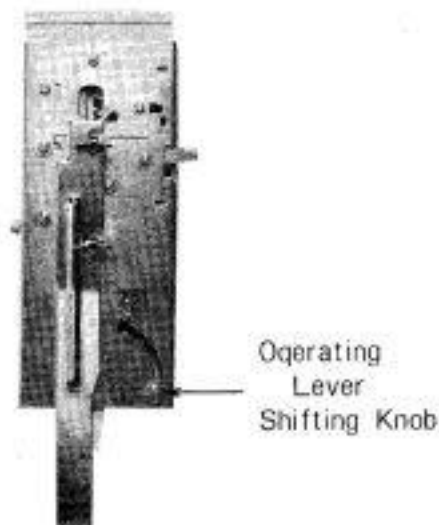

Fig. 67
To bring No.1 Lever into operation move the Shifting Knob to the bottom of the slot, and to the top of the slot for Lever No.2. (Fig.67) If figure '1' appears at this window, bring No.1 Lever into operation, and the Pattern Card in this setting is raised one line with each row of knitting.
- O.L. indicates '2' Bring into action the No.2 Operating Lever. (Fig. 67)